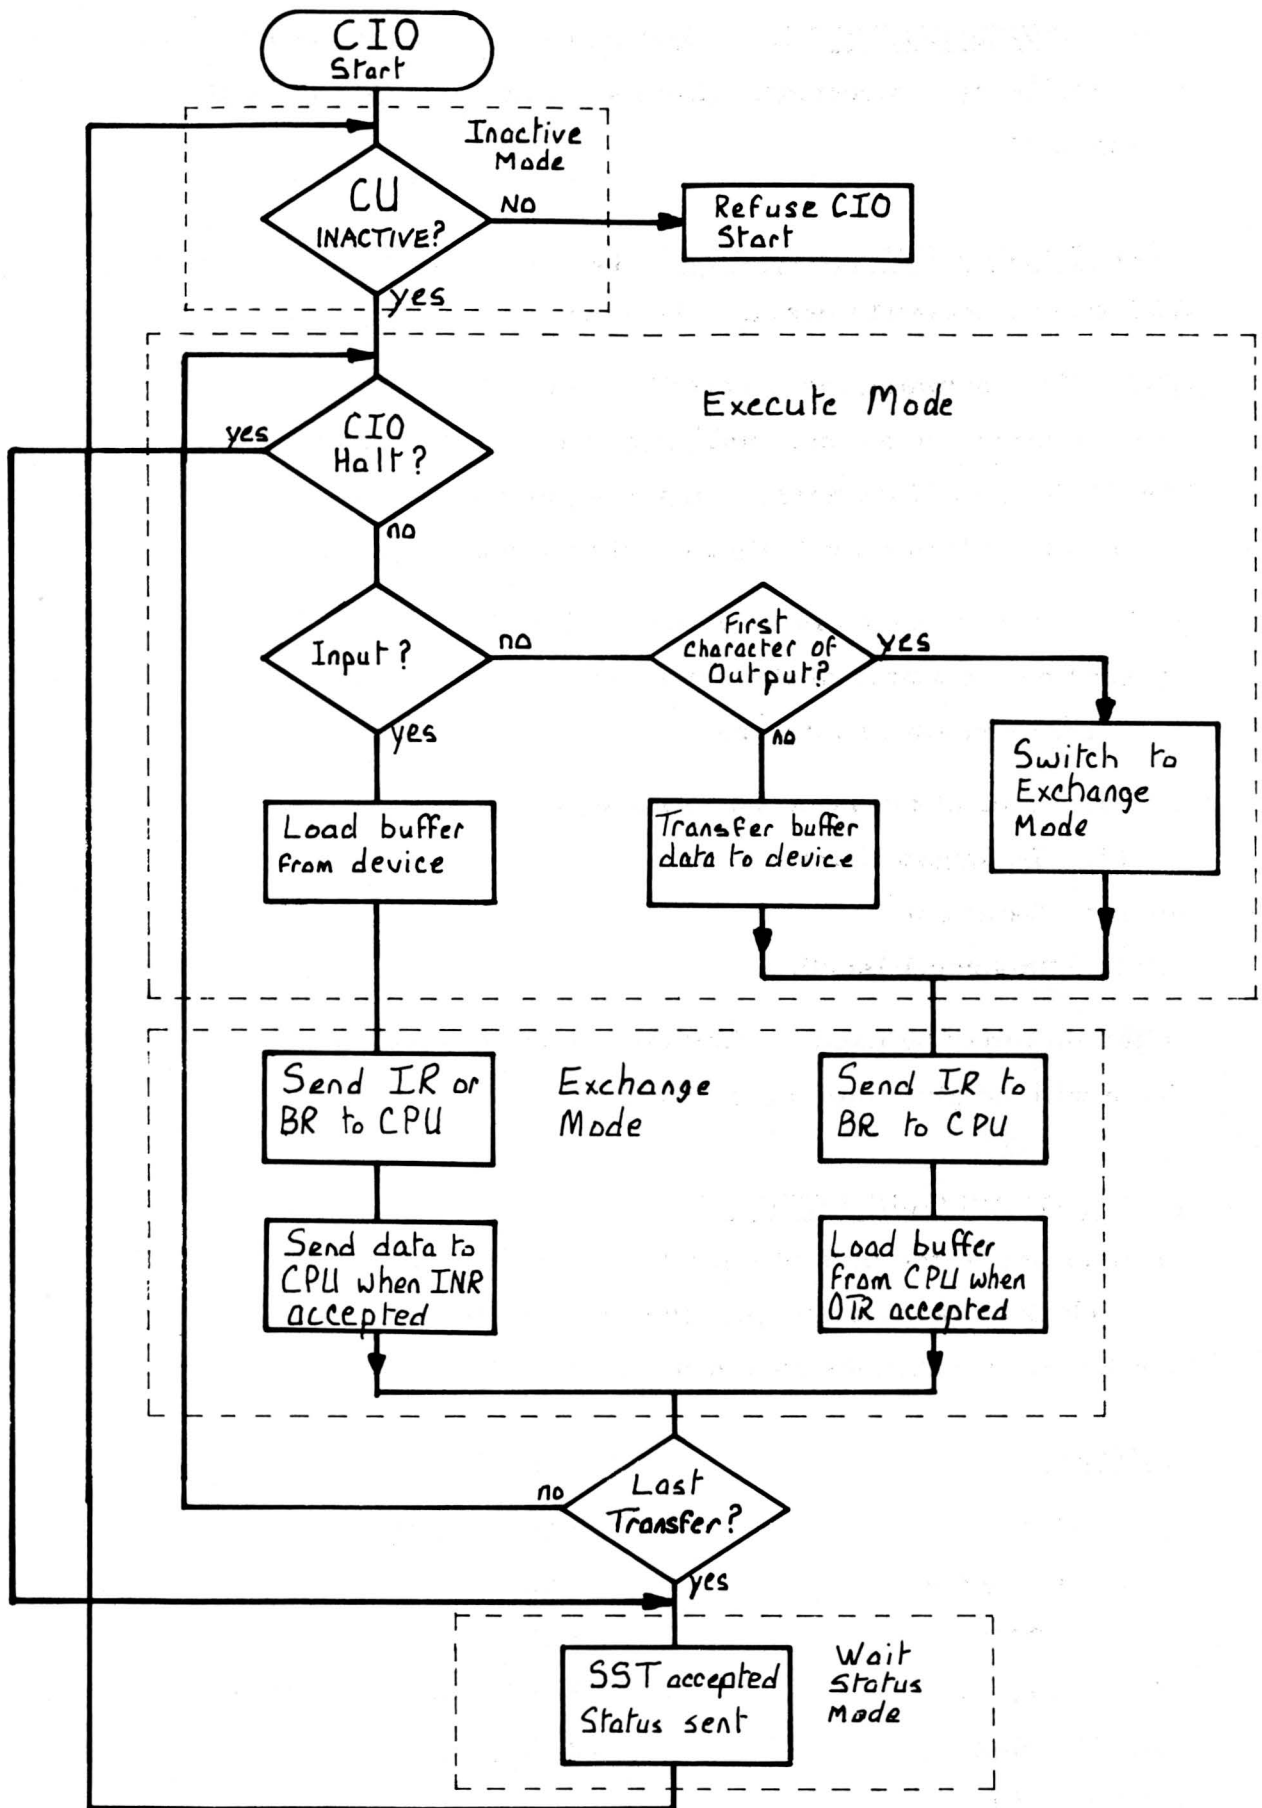

Figure 1.4 Mode Sequences
1.9 MODES SEQUENCES The mode sequence depends on whether the transfer is input or output. Both sequences are shown in the flowchart in Figure 1.4.